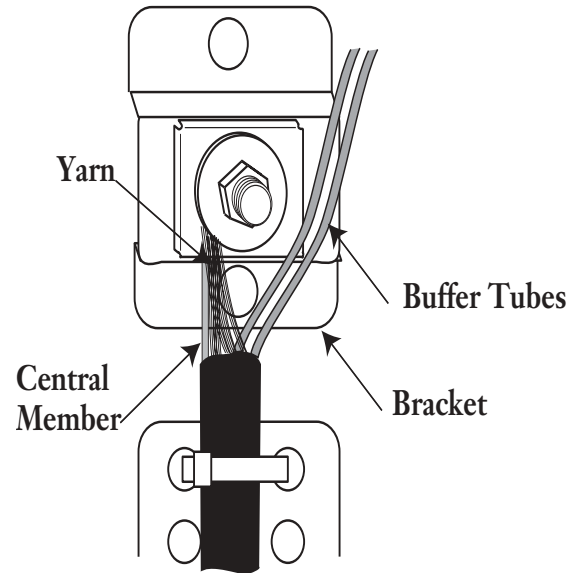

Figure 9
**9.6** When central member strain-relief is required, the central member bolt must be installed into the strain-relief bracket as shown (Figure 9).
- Install the U-shaped washer as shown in Figure 9.